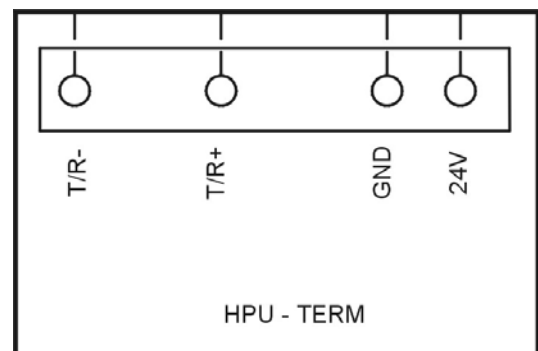

Figure 1-15
- Connect to the end of these wires a HPU Termination board. [See Figure 1-15.]